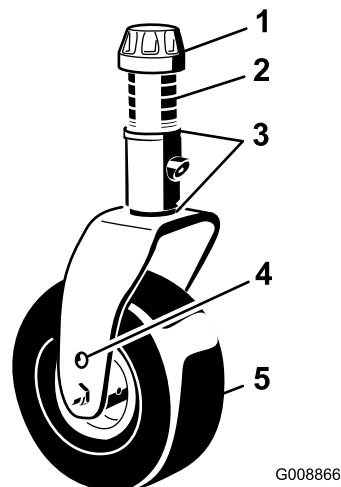
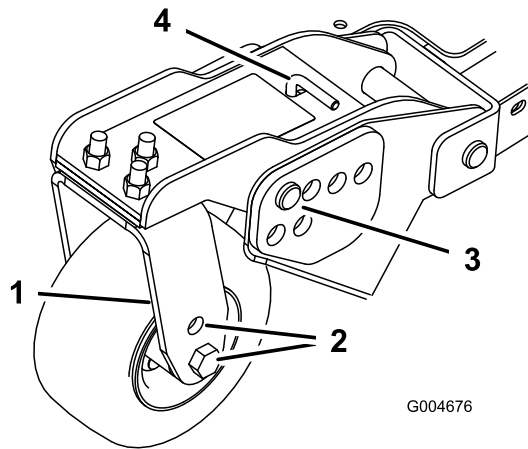
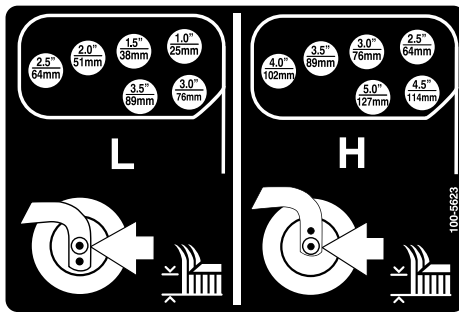

Figure 18
Figure 20
Figure 21
- Position the caster-wheel axles in the same holes in all of the caster forks (Figure 18 and Figure 20).
- Remove the tensioning cap from the spindle shaft and slide the spindle out of the caster arm (Figure 18).
5. Remove the hairpin cotter and clevis pins from the caster-pivot arms (Figure 20).
6. Rotate the tension rod to raise or lower the pivot arm until the holes are aligned with the selected height-of-cut bracket holes in the mower-deck frame (Figure 20 and Figure 21).